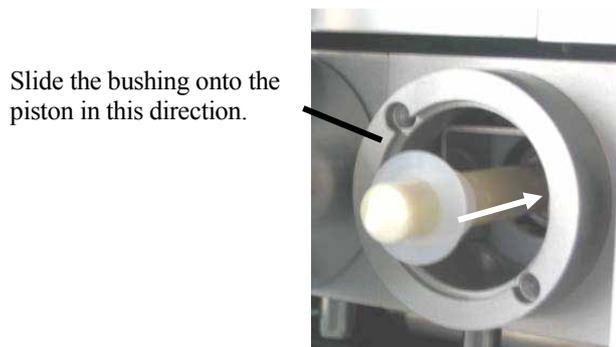

Fig. 55: Correct orientation of the piston bushing
6. Slide the piston bushing onto the piston. Be sure to install the bushing in the correct orientation (→ Fig. 55).